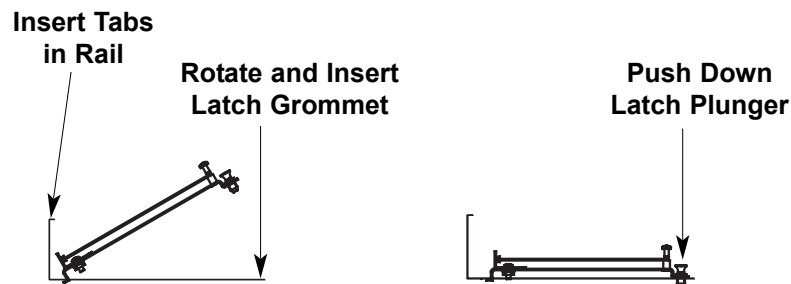

Figure 5
- C. Mounting in Enclosure - Refer to **Figure 5**.